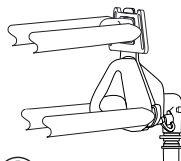

Figure 5
1. Remove the headstrap and spacer from the mask (Figure 5 and Figure 6). Fill a container with enough water to cover the entire mask. (DO NOT put the mask in the water at this time.) Place the container over heat and bring the water to a boil. Remove the container from the heat.